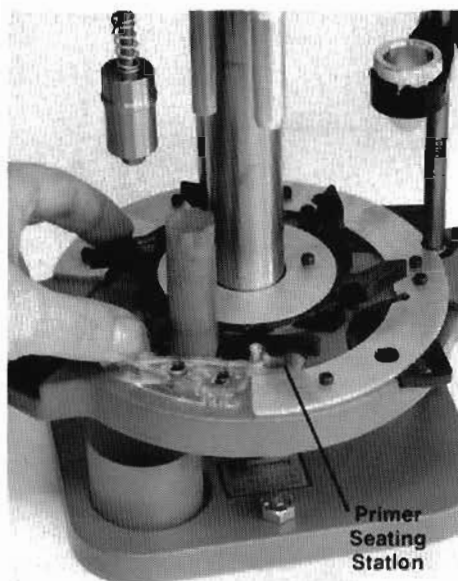

Fig. 22
**Figure 22** - Raise the handle completely and advance the shell to the primer seating station. The new primer will drop into position underneath the hull at that station.